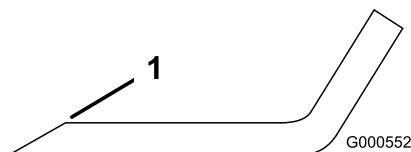

**Figure 77**
1. Use a file to sharpen the cutting edge at both ends of the blade (Figure 77).
**Note:** If the blade is not balanced, file some metal off the end of the sail area only (Figure 77).